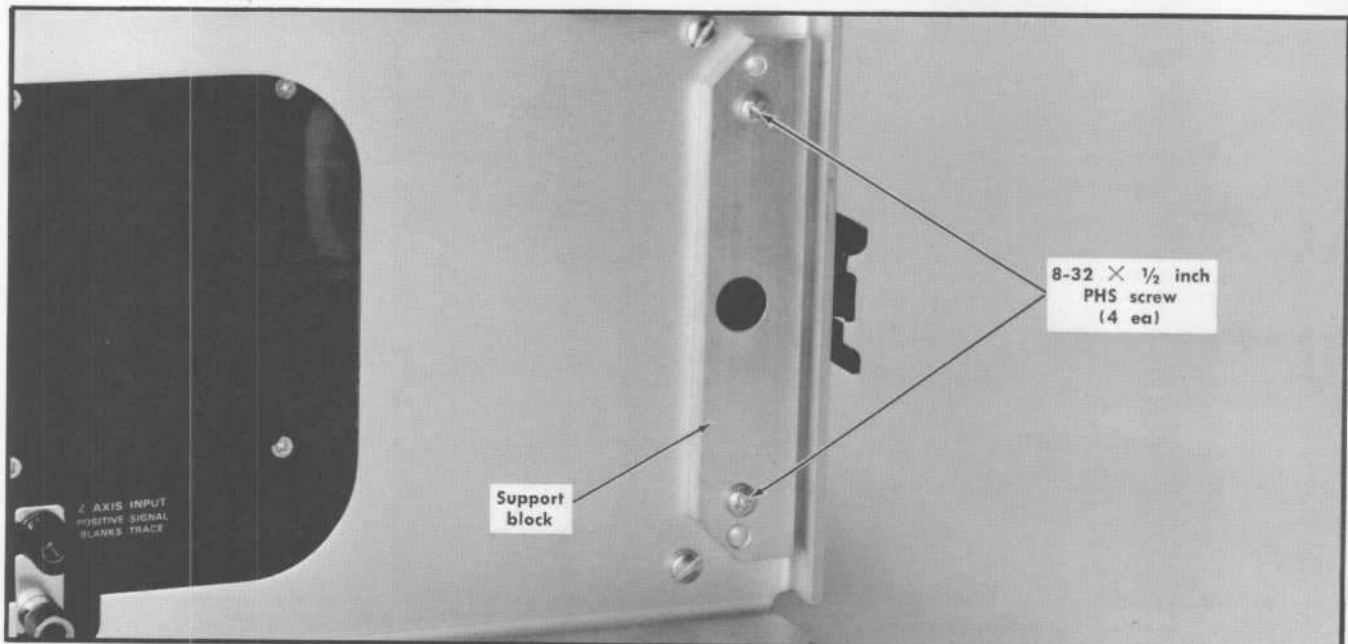

Fig. 6-8. Installing the support block on the instrument.
5. Install a support block on each side of the instrument as shown in Fig. 6-8.